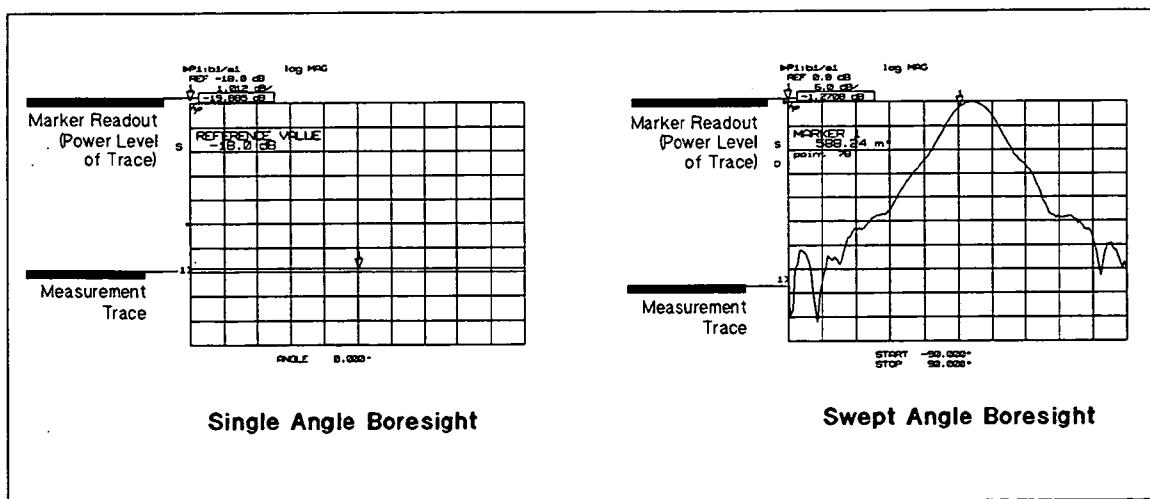

Figure 5-9. Single Angle Boresight (at left) and Swept Angle Boresight (at right)
9. Move the positioner until the flat line reaches maximum amplitude (or minimum amplitude if your antenna has a null at boresight). It is helpful to watch the marker value readout (in the upper-left portion of the display). This digital readout of the amplitude makes it easy to observe small (0.1 dB) changes. Refer to Figure 5-9.